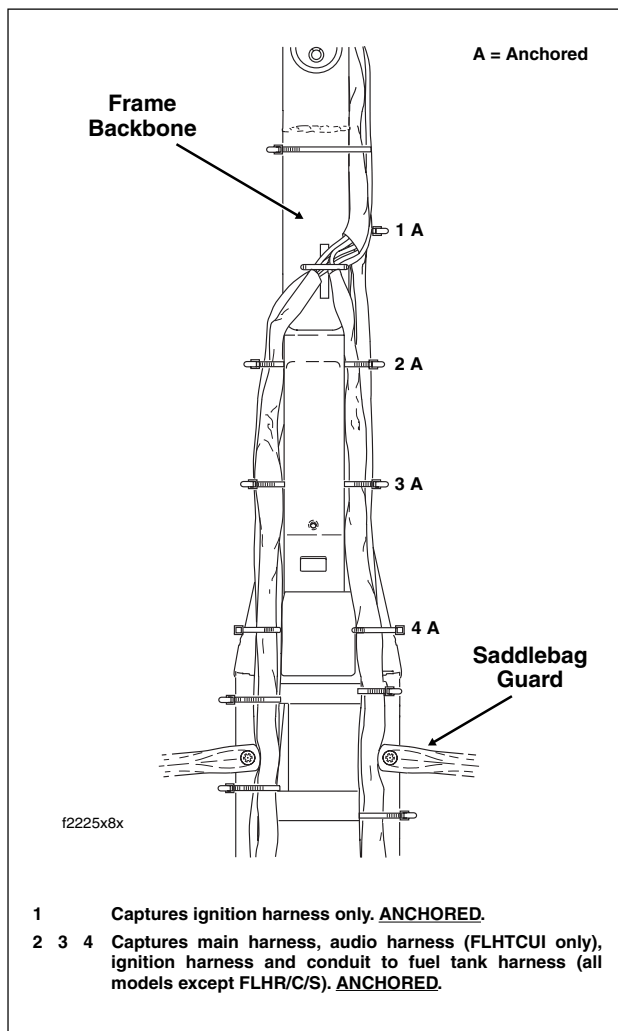

Figure 8-185. Remove/Install Cable Straps
6. Carefully cut cable straps to free ignition harness from right side of frame backbone, upper frame tube and other wire harness bundles. See Figure 8-185.
4. Loosely install **new** cable straps to secure ignition harness to right side of frame backbone, upper frame tube and other wire harness bundles. See Figure 8-185.